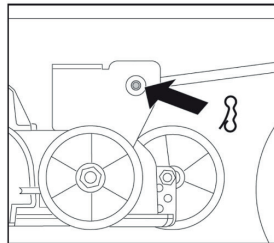
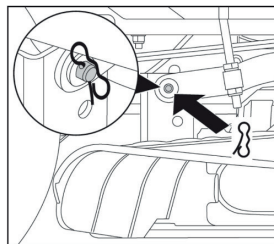
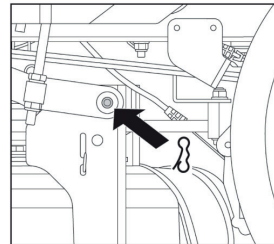

FIG. 25A
FIG. 25B
FIG. 25C
4. REMOVE 3 HITCH PINS, 2 ON THE RIGHT (FIG. 25A AND FIG. 25B), 1 ON THE LEFT (FIG. 25C) THAT HOLD THE DECK IN PLACE.